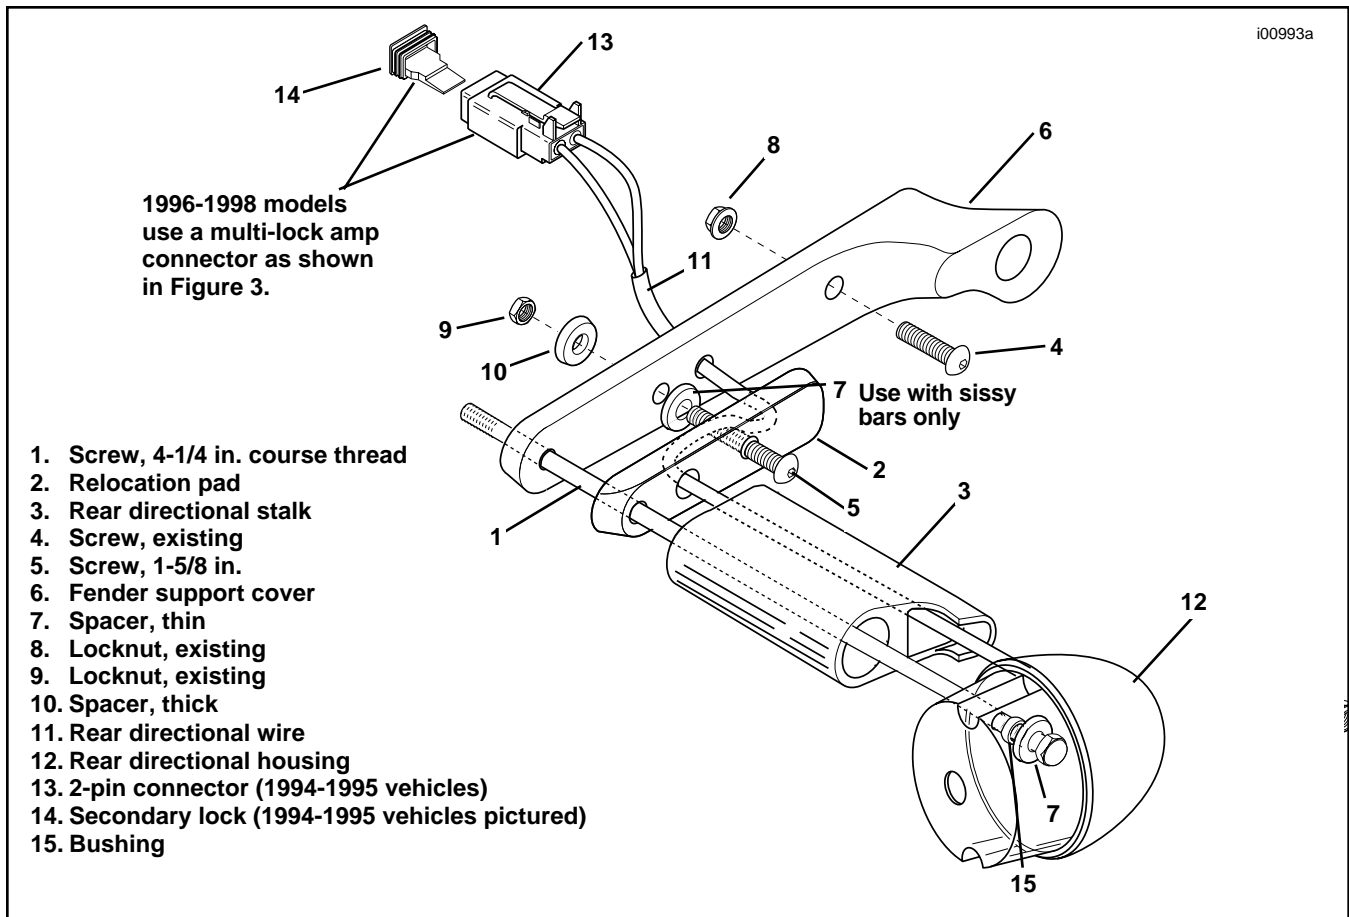

Figure 4. Routing Rear Directional Wires and Installing Relocation Pad on 1998 models
All 1998 models. See Figure 4. Drill out threads in turn signal housing using a 13/32 inch drill bit. Use caution not to scratch chrome surface of turn signal housing. Place thin spacer (7) and bushing (15) on 4-1/4 in. bolt (1) near threads. Install bolt through turn signal housing. Bushing should be level with inside boss in turn signal housing.
On 1998 models, see Figure 4. Place Loctite on threads of 4-1/4 in. bolt (1). Install rear directional with relocation pad and fender support cover onto fender using 4-1/4 in. bolt (1) inserted through turn signal housing in step 10. Tighten bolt until snug.
- Install 1-5/8 in. bolt (5) from kit through forwardmost hole of relocation pad (2), fender support cover (6), thick spacer (10) (taped to frame) and fender support. Reinstall using original nut (9) removed in Step 5.
- Reinstall original nut (8) and bolt (4) removed from forwardmost hole in fender support cover (6). Tighten finger tight.